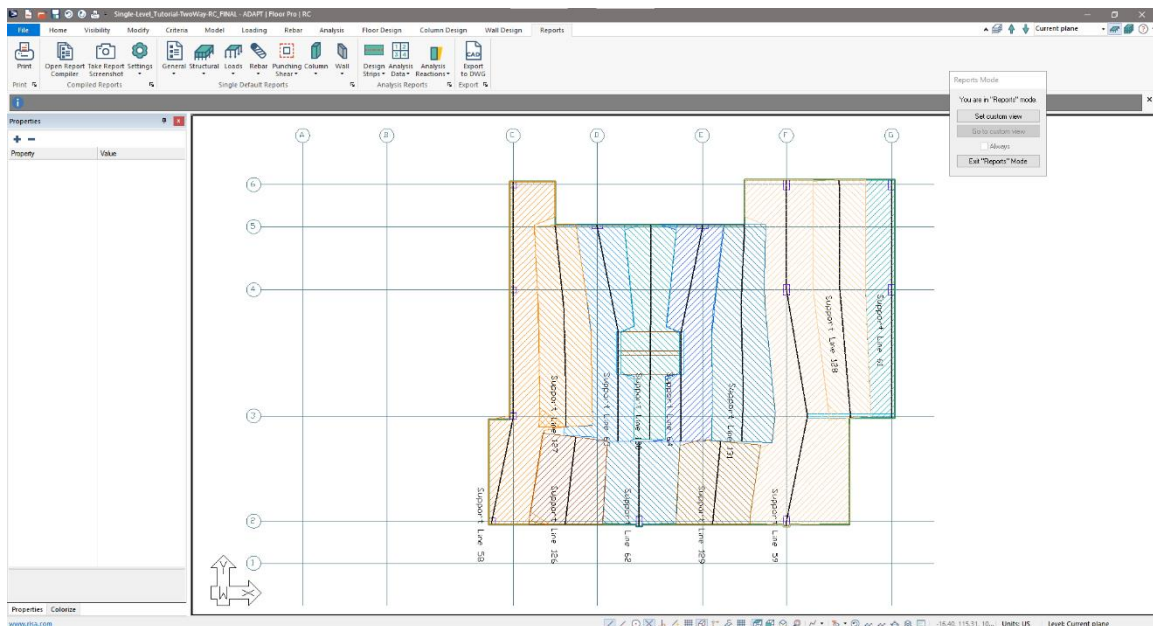

Figure 6-37
- Go to *Reports* → *Analysis Reports* → *Design Strips* → *Design Strips Y-Direction*. This will bring up a report view of the design strips for the user to review as shown in **FIGURE 6-37**.